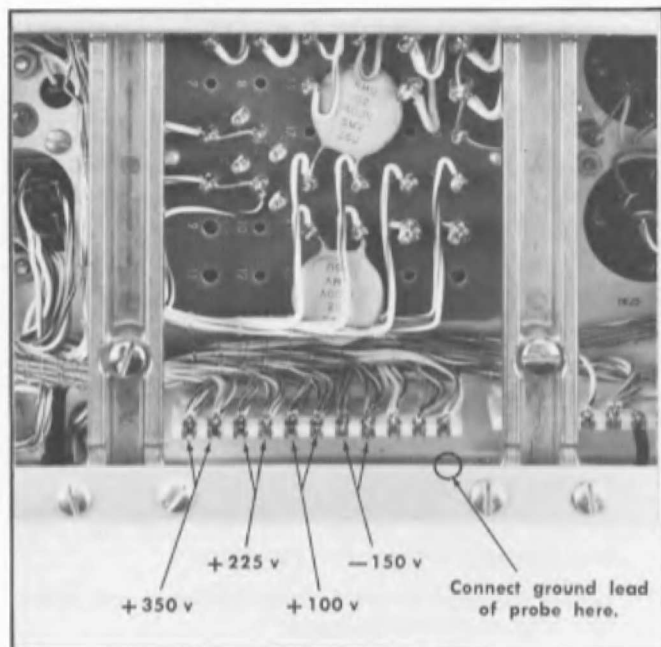

Fig. 5-1. Low-voltage power-supply test point locations (bottom of instrument near the power transformer).
5. Using the VOM, check the resistance at the regulated bus of each power-supply lead to ground at the test points shown in Fig. 5-1. The values of resistance should be approximately as indicated in Table 5-1, once the capacitors are charged by the VOM internal battery.
- c. Check the voltage accuracy of each power supply output using the VOM (item 4) according to the information given in Table 5-3. The location of the test points is shown in Fig. 5-1.
- Monitor the regulated output of the —150-volt supply with the VOM. The test point location is shown in Fig. 5-1.
- Connect a 1X probe from a test oscilloscope (item 1) to the —150-volt test point and check the output ripple amplitude. The maximum ripple voltage is given in Table 5-3.
Ground loops can cause an erroneous ripple measurement. (Ripple due to ground loops is the same frequency as the line; low-voltage power supply ripple is twice the line rate.) One way to avoid ripple due to ground loops is to temporarily disconnect the chassis ground wire in the power cord by using an ungrounded 3-to-2 wire line-plug adapter. Then use a ground lead from the signal probe to make a ground connection to the oscilloscope chassis at the location shown in Fig. 5-1. The probe will then provide the only ground connection between the two instruments. The "test oscilloscope" is item 1 while the term "oscilloscope" or "instrument" refers to the oscilloscope being calibrated.